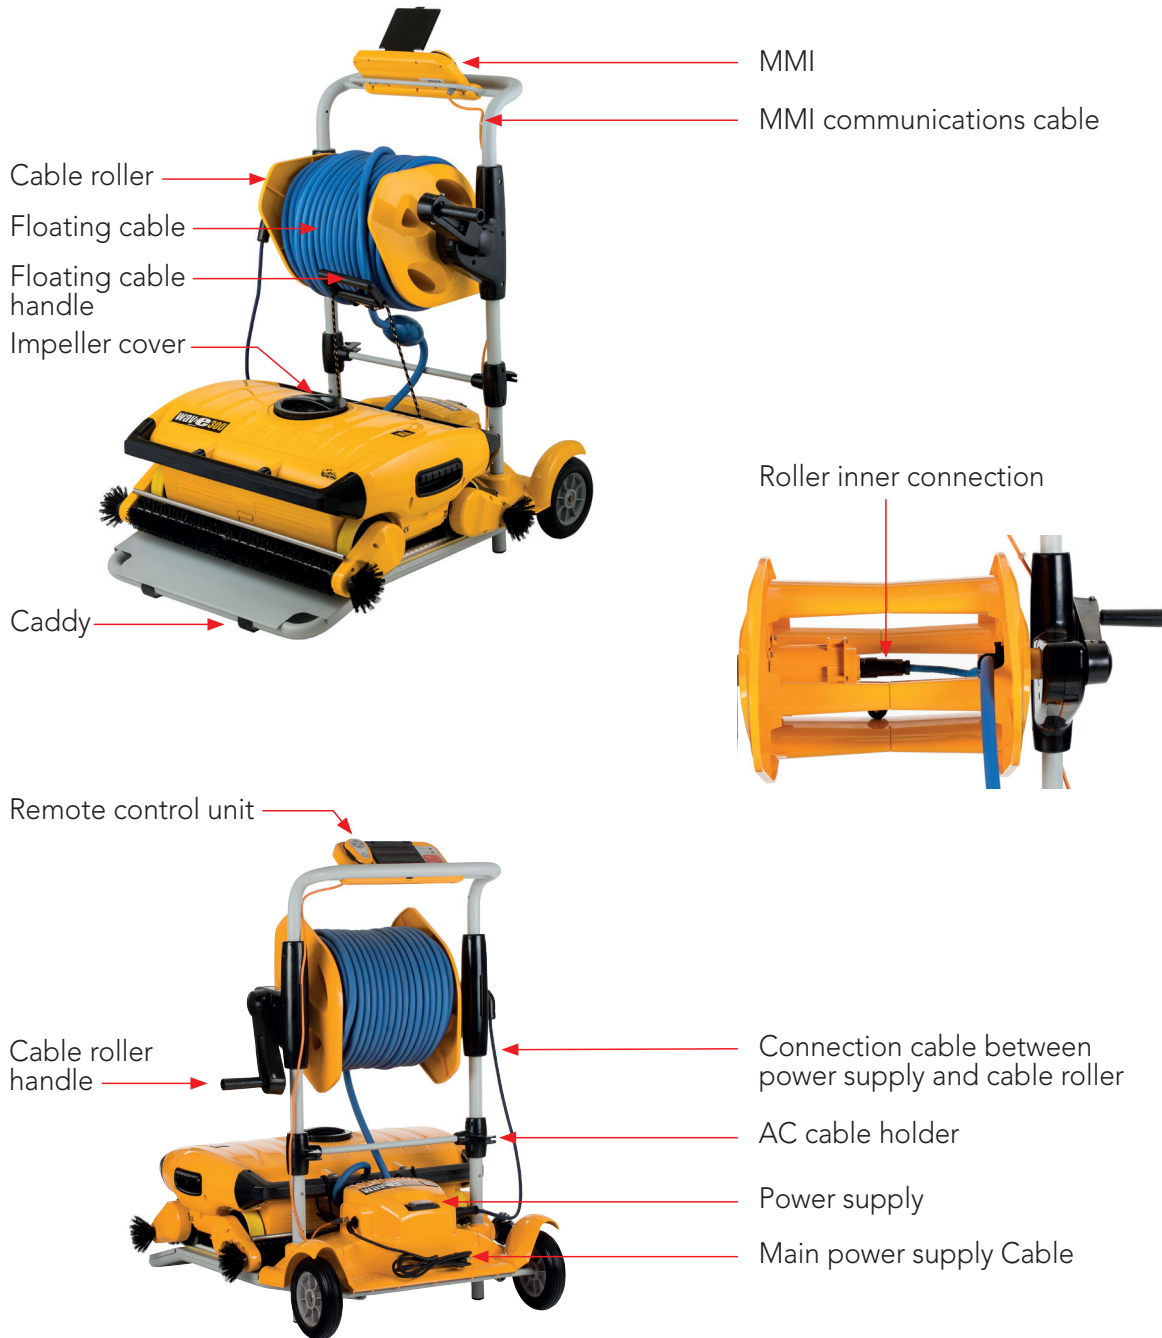

Figure 1: The Dolphin Wave
Refer to Figure 1
3. Place the Dolphin Wave robot on the Caddy in front of the power supply as shown in Figure 1.